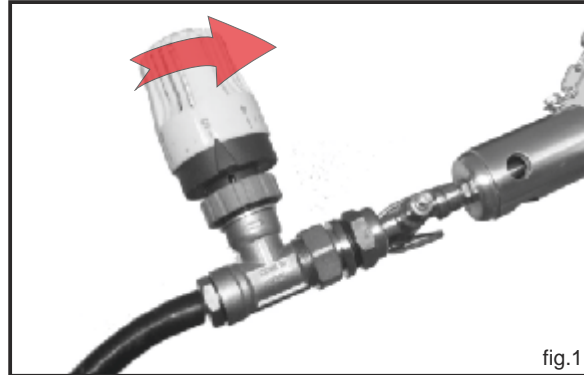

fig.1
2. Turn the thermostatic head to the maximum (Fig 1). In brooders with zone control, the thermostatic head is in the control panel.